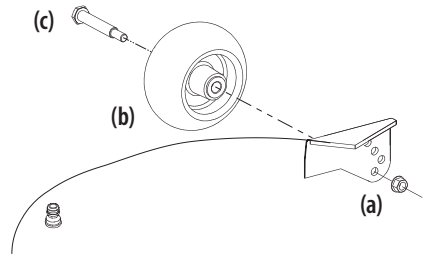

Figure 11
- Remove the lock nut (a) gauge wheel (b) and shoulder screw (c) from the deck. See Figure 11.